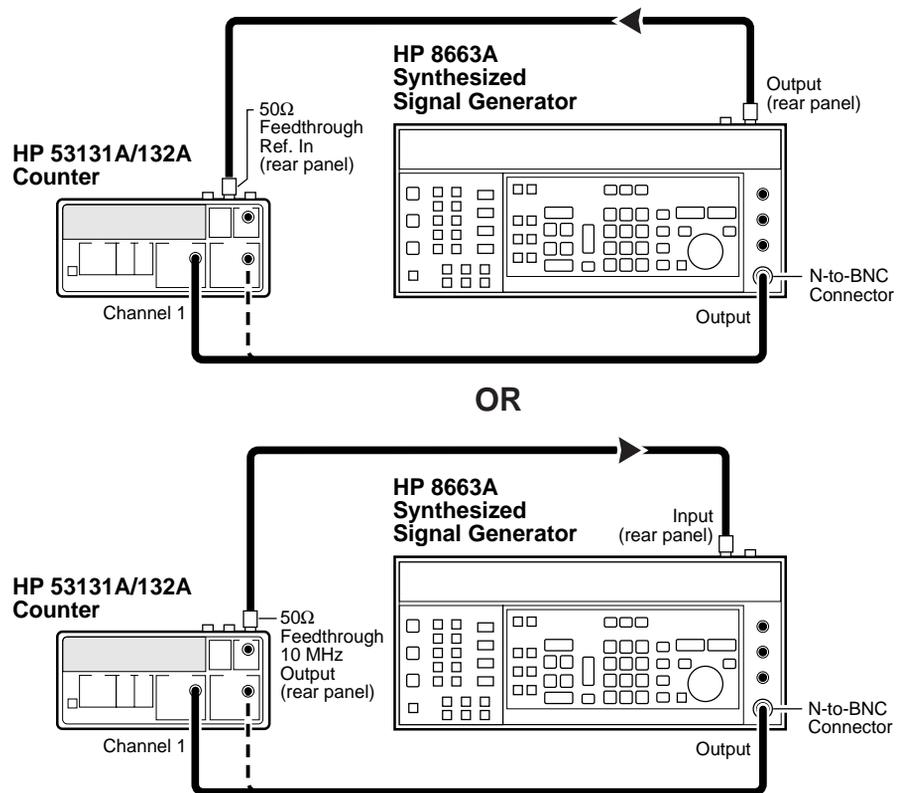

Figure 1-7. Channels 1 and 2 Frequency Sensitivity Test Setup
- 1 Connect the timebase output of the unit with the better timebase to the timebase reference input of the other unit as shown in Figure 1-7.**
For this test, make sure you always use the unit (HP 53131A/132A or HP 8663A) that contains the better 10 MHz timebase as the output source as shown in Figure 1-7.